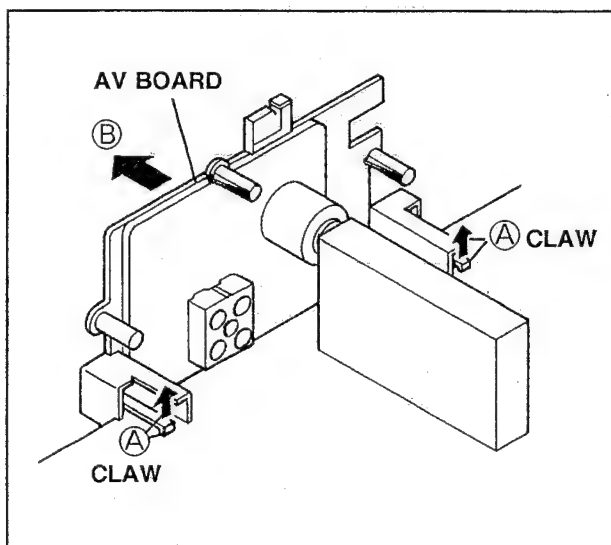

Fig. 3
3. Remove the claws marked (A) by widening slightly in the direction of arrow as shown in Fig.3.
4. Remove the AV BOARD in the direction of arrow marked (B) as shown in Fig.3.
(1) Power off Switch off the power and disconnect the power cord from the outlet.
(2) Replace the memory IC. Initial value must be entered into the new IC.
(3) Power on Connect the power cord to the outlet and switch on the power.
(4) System constant check and setting 1) Simultaneously press the DISPLAY key and PICTURE MODE key of the remote control unit. 2) The SERVICE MENU screen of Fig. 1 is displayed. 3) While the SERVICE MENU is displayed, again simultaneously press the DISPLAY and PICTURE MODE keys to display the Fig. 2 SYSTEM CONSTANT screen. 4) Refer to the SYSTEM CONSTANT table-1 and check the setting items. Where these differ, select the setting item with the PICTURE ADJUST CENTER key and adjust the setting with the PICTURE ADJUST + / - keys. [ABL SETTING] 5) Press the PICTURE ADJUST + / - keys to adjust each item of ABL/REF/STEP in the ABL settings as shown Fig. 3. Then, select the items by the PICTURE ADJUST CENTER key and set the values by the PICTURE ADJUST + / - keys. After setting, press the MUTE key to return to the SYSTEM CONSTANT screen. 6) After adjusting, release the PICTURE ADJUST + / - key to store the setting value. 7) Press the MUTE key twice to return the normal screen.	 <p>Fig. 1</p>  <p>Fig. 2</p>  <p>Fig. 3</p>
(5) Receive channel setting Refer to the OPERATING INSTRUCTIONS and set the receive channels as described.
(6) User settings Check the user setting items according to table-2. Where these do not agree, refer to the OPERATING INSTRUCTIONS and set the items as described.
(7) SERVICE MENU setting Check the items according to Table-3. Where necessary, refer to SERVICE ADJUSTMENTS and set the items as described.